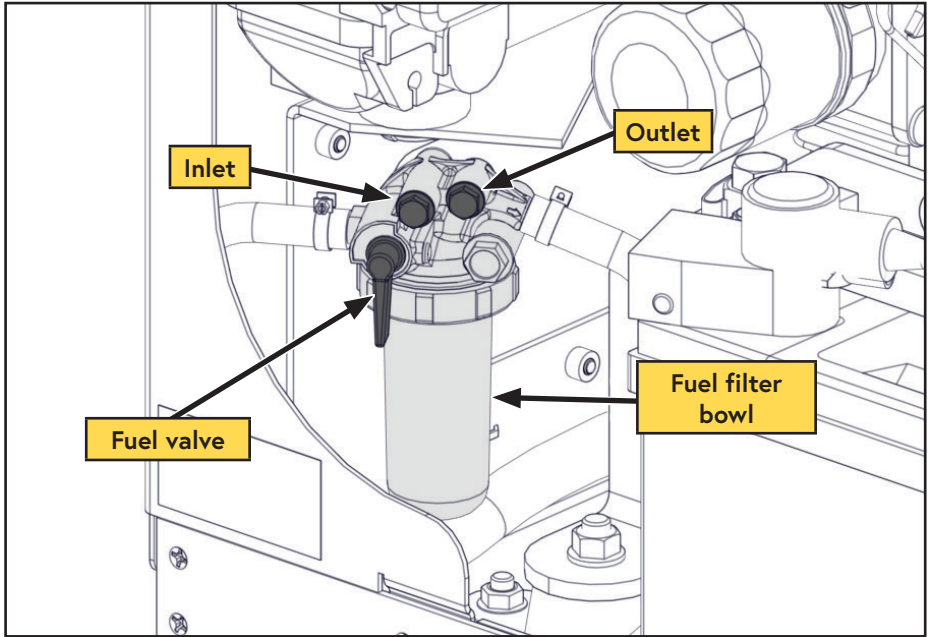

Figure 10 — Prime fuel system
- ☐ Loosen the inlet bleed screw a few turns and allow the fuel to flow out (use a cloth to catch the fuel surplus) until there are no bubbles and tighten the bleed screw (Figure 10).
- ☐ Loosen the outlet bleed screw and bleed until there are no bubbles and tighten the bleed screw (Figure 10).